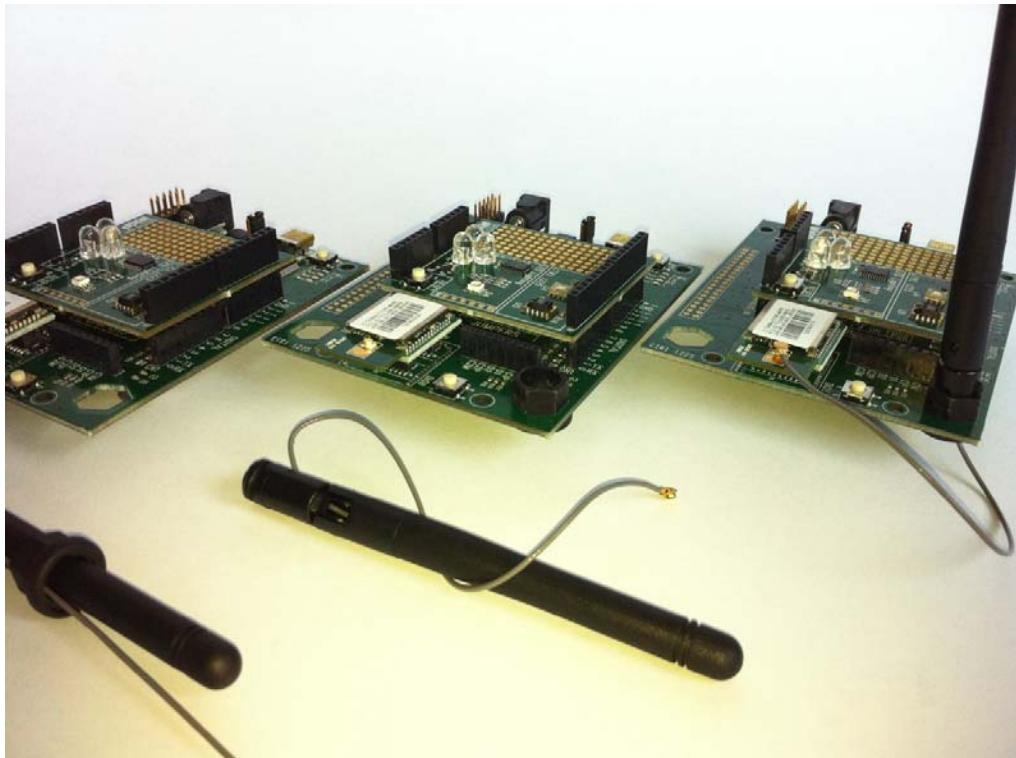
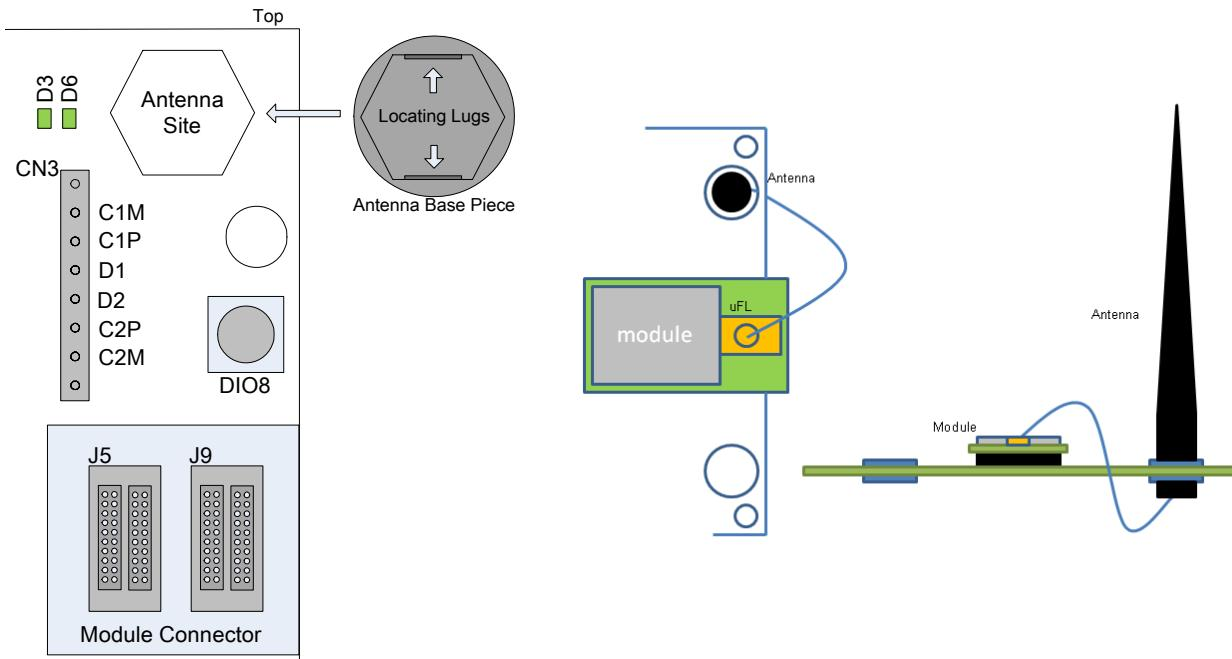

Figure 20: Stages of Antenna Mounting
Figure 21: Antenna Mounting and Connection
The JN5168 modules with uFL connectors must be used with the supplied antennas. An antenna is provided with a 7-cm fly lead attached, which allows the antenna to be connected to the module. To mount and connect an antenna, proceed as follows (also refer to Figure 20 and Figure 21):
2. Push the antenna base piece into a hexagonal hole on the Carrier Board from the rear of the board until the collar is flush with the board. *The 'locating lugs' of the antenna base piece should be parallel to the top or bottom of the board, as illustrated in Figure 21.*